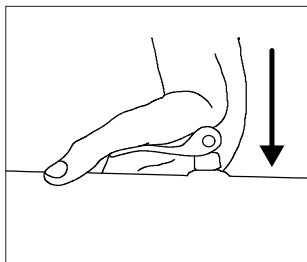

Fig. 12: Open and hold down frame quick release.
5. With the heel of your hand, press and hold down the quick release in the open position (Fig. 12).